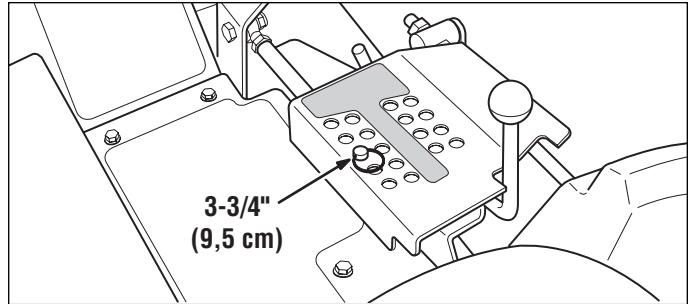

Figure 11. Deck Height Pin Position
2. Install the cutting height adjustment pin in the 3-3/4" (9,5 cm) position. See Figure 11.